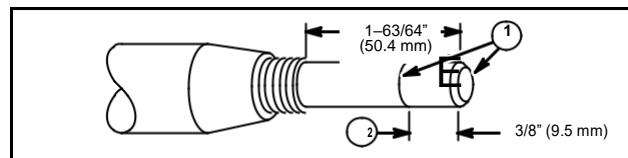

Fig. 21
The crankshaft must be shortened 3/8" (9.5 mm) (2) and the end chamfered as shown in (1) Fig. 21. A new screen #221661 is required with the new clutch.